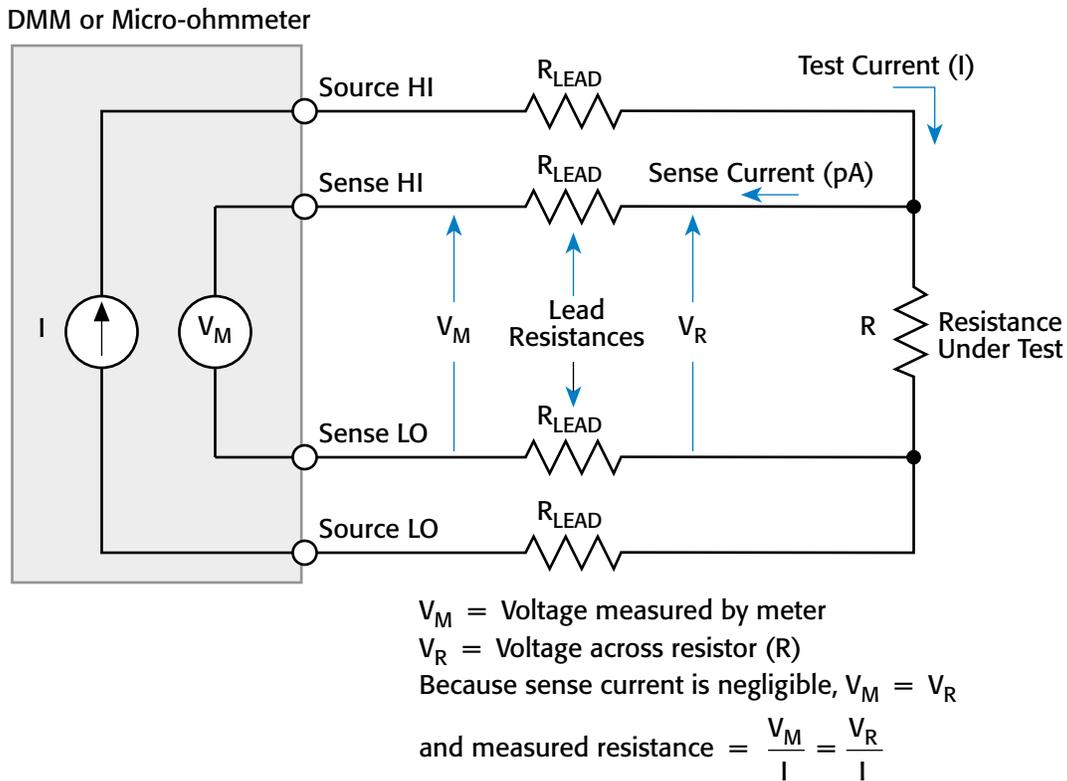

Figure 2.
The four-wire (or Kelvin) connection method (*Figure 2*) is generally preferable for low-resistance measurements. Here, the test current (I) is forced through the test resistance (R) through one set of test leads; the voltage (V_M) across the DUT is measured through a second set (the sense leads). The current that may flow through the sense leads is generally small enough to ignore and is not in the voltage measurement portion of the circuit. The voltage drop across the sense leads is also negligible, so the voltage measured by the meter (V_M) is essentially the same as the voltage (V_R) across the resistance (R). As a result, the resistance can be determined with much greater accuracy. Connect the voltage-sensing leads as close to the resistor under test as possible to avoid including their resistance in the measurement.